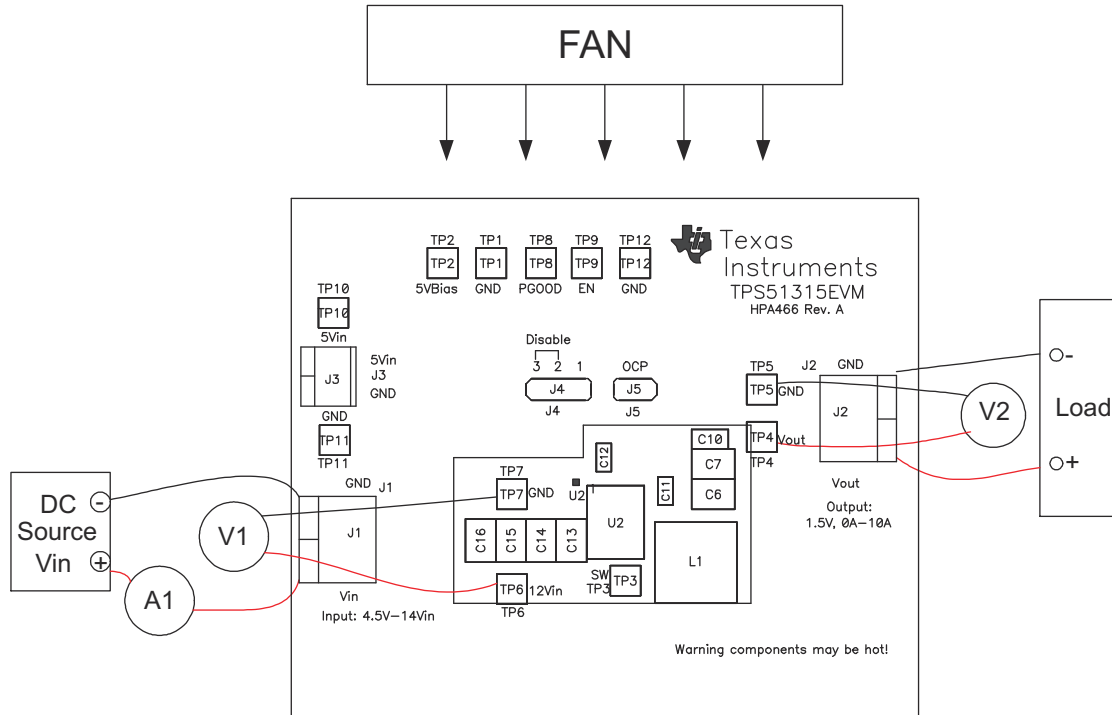

Figure 7-2. TPS51315-EVM Recommended Test Set Up
The input voltage source V_{IN} should be a variable DC source between 0 V and 14 V, capable of supplying 10 A. Connect V_{IN} to J1 as shown in Figure 7-2.
A voltmeter between 0 V and 15 V should be used to measure V_{IN} at TP6 (V_{IN}) and TP7 (GND). A voltmeter between 0 V and 5 V for output voltage measurement at TP4 (V_{OUT}) and TP5 (GND). A current meter between 0 A and 10 A (A1) as shown in Figure 7-2 is used for input current measurements.
Figure 7-2 is the recommended test set up to evaluate the TPS51315-EVM. Working at an ESD workstation, make sure that any wrist straps, bootstraps or mats are connected referencing the user to earth ground before power is applied to the EVM.
1. Prior to connecting the DC input source V_{IN} , it is advisable to limit the source current from V_{IN} to 10 A maximum. Make sure V_{IN} is initially set to 0 V and connected as shown in Figure 7-2.
Place a fan as shown in Figure 7-2 and turn on, making sure air is flowing across the EVM.